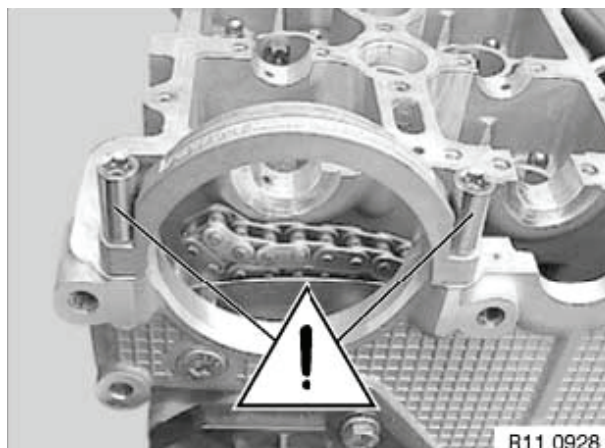
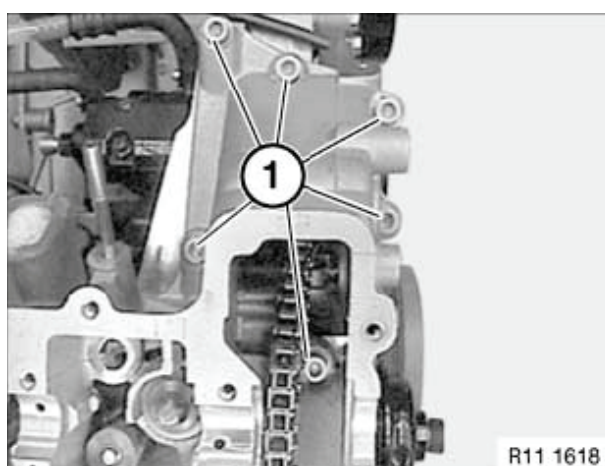

Figure 5-14
Figure 5-15
20. **NOTICE:** NEVER remove bolts retaining loop casting (**Figure 5-14**). Remove timing case cover bolts (**Figure 5-15, (1)**).